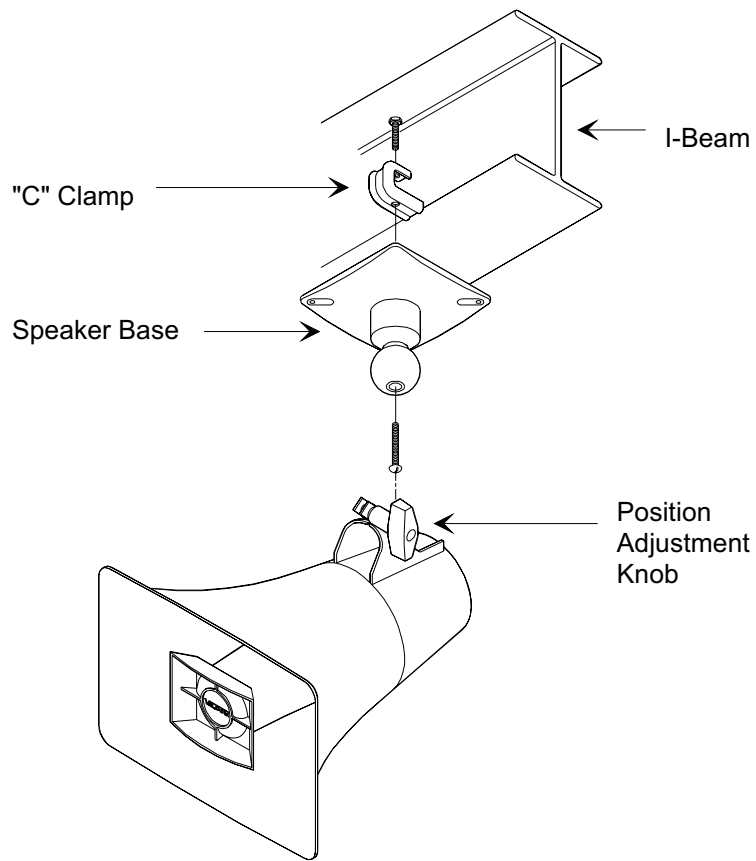

Figure 1 - Mounting to a Beam with a "C" Clamp
- A "C" clamp is provided with the horns to allow mounting to a beam. Place the bolt through the hole in the bottom of the base to secure the "C" clamp to the beam (See Figure 1). It is suggested that the horn be mounted to the underside of the "I" beam to provide maximum positioning adjustments.
The horns may be rotated or moved up and down to obtain the desired position by loosening the knob at the bottom of the unit (See Figures 1 & 2) approximately 1 turn. Make required adjustments and re-tighten knob.